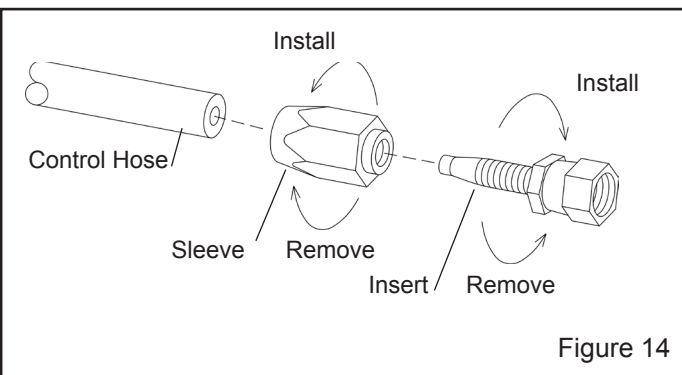

Figure 14
4.9 Cutting Control Hose and Reusing Control-Hose Fittings – Figure 14